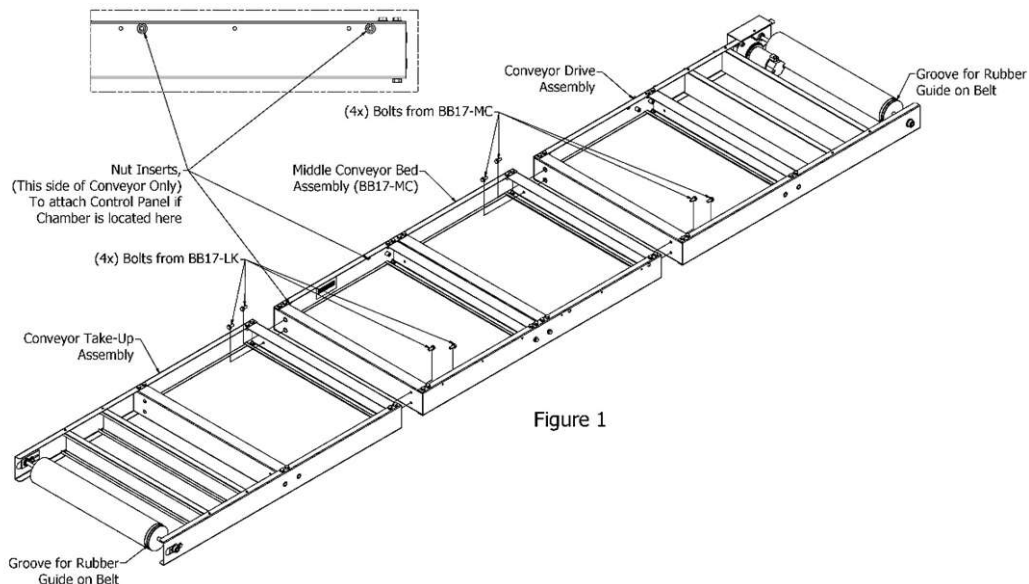

Figure 1
2. Place the Conveyor Drive Assembly on the covered floor. (See Figure 1)
3. Butt the Middle Conveyor Bed Assembly to the Drive Assembly. Be sure to place BB17-MC with Nut Inserts on the correct side of conveyor. (See Figure 1)